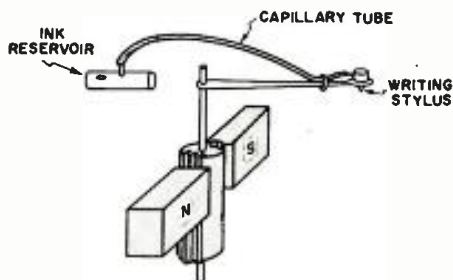

Fig. 2. The first writing system developed.
Fig. 2 shows the first writing system developed for the direct-writing oscillograph. This merely consisted of hanging a stylus on the end of the galvanometer pointer. While this presents no problem in a D'Arsonval meter, since the scale can simply be ruled along an arc corresponding to the arc the pointer is required to travel, it does present some interesting problems when we attempt to apply the same method to record on moving paper. If we are to have a system for making accurate time and amplitude measurements, it is necessary to rule the recording paper with some sort of reference lines. A sample of paper designed to be compatible with the system of Fig. 2 would have to be ruled as shown in Fig. 3A. As may be suspected, this would be exceedingly difficult to work with and further refinements are necessary. These mainly consist of lengthening the writing stylus to produce a correspondingly smaller arc at the point of contact with the paper and limiting the stylus travel to a very small part of that arc. This allows the recording paper to be ruled as shown in Fig. 3B. This is known as the *curvilinear* writing method and is one of the two types available in direct-writing oscillographs today. Fig. 5 shows the *rectilinear* writing method. This system permits the recording paper to be ruled in straight lines of equal separation and is the preferred system.
Fig. 3. (A) Graph suitable for use with the writing system in Fig. 2. (B) By using a longer writing stylus, the recording paper may be ruled as shown. This type of recording is in present use and is called curvilinear.